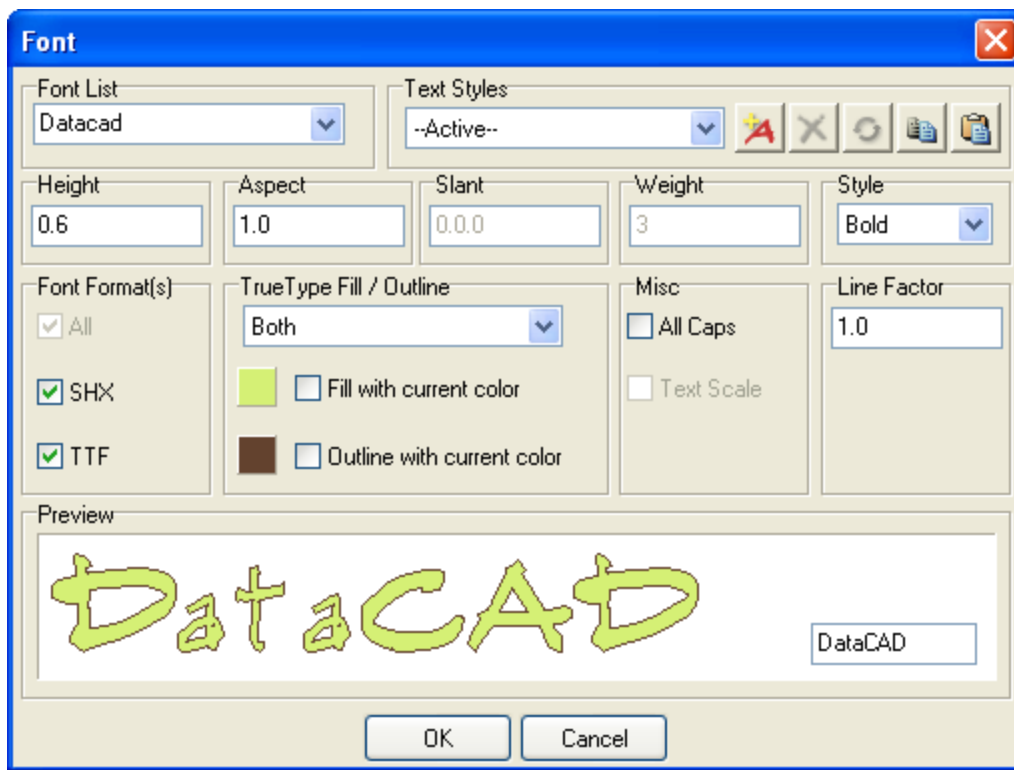

Figure 14.3: Selecting a font, with a preview of the selection
- Font Set the font used for dimension text (see Figure 14.3).